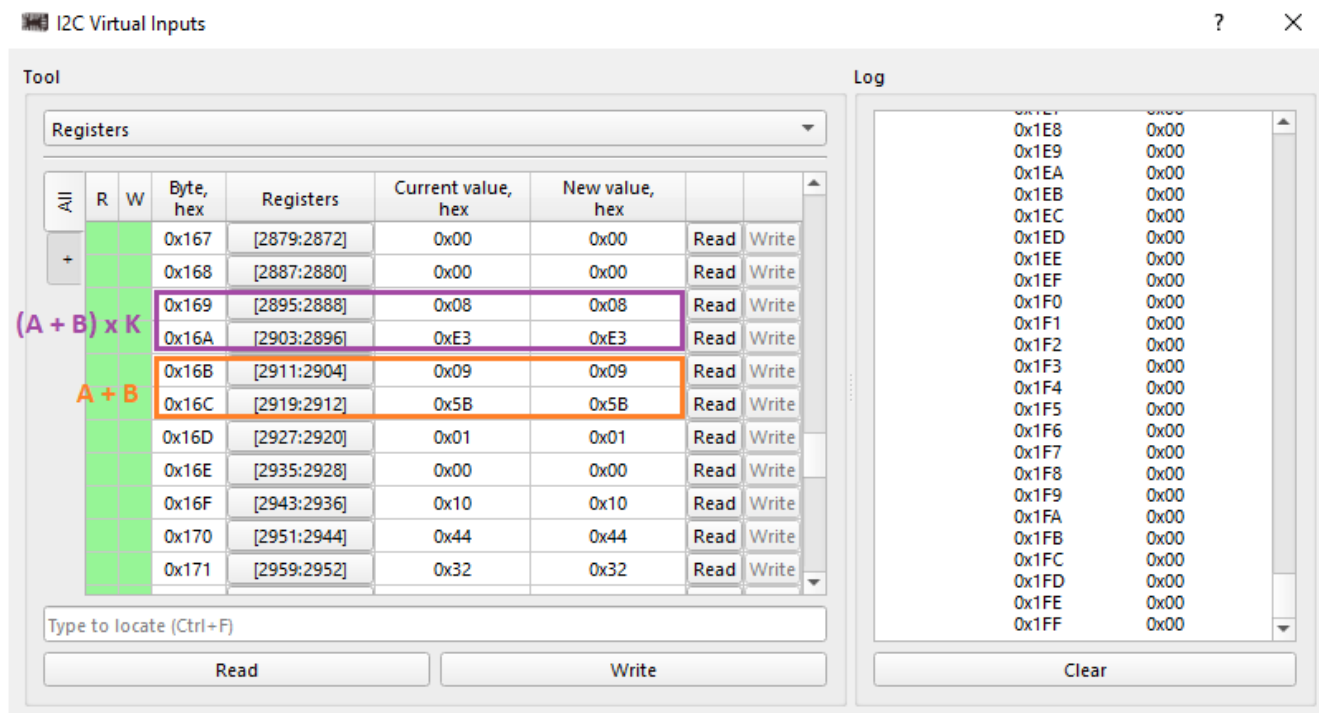

Figure 4. Math Core Values
- For each temperature range, tune the corrected offset B of the pressure sensor with no load via I2C/SPI (Registers -> Bytes 16B and 16C, see Figure 4).
- Load the sensor with a known load and compare the obtained value with the predicted one. Tune the gain error K (Bytes 169 and 16A, see Figure 4).